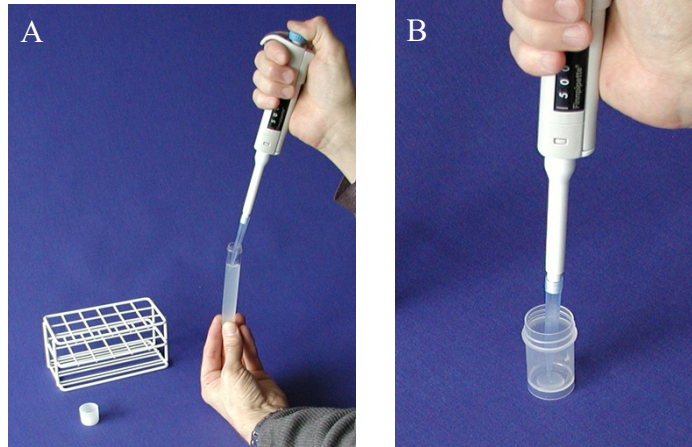

Figure 1. (A) Pipetting of 1000 µl / 500 µl of semen dose and (B) transferring sample to center area of bottom of sample cup
2. Check that the Dilution Factor (DF) is correct.
3. Aspirate a representative volume of 1000 µl (DF=11) or 500 µl (DF=21) of semen dose using the automatic pipette mounted with a new pipette tip. Transfer the sample to the center area of the bottom of a 20 ml sample cup. (*cf. figure 1*)